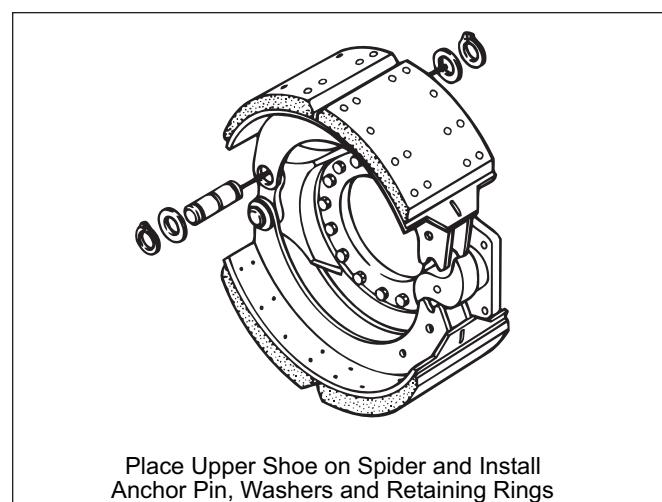

Figure 69. Upper Shoe and Anchor Pin Installation
6. Place upper shoe in mounting position on spider, and install upper anchor pin, washers and retaining rings. Refer to Figure 69.